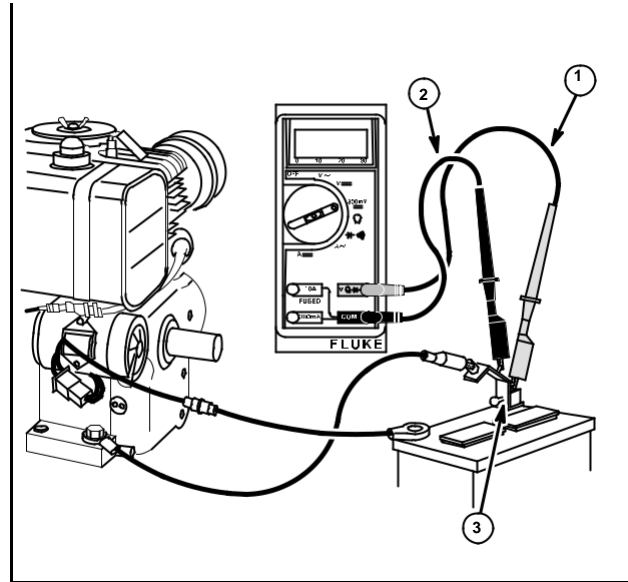

Fig. 34
The DC Shunt **must** be installed on the – (**negative**) terminal of the battery, Fig. 34. All connections must be clean and secure.
2. Insert RED test lead (1) into $V\Omega \rightarrow +$ receptacle in meter and connect to RED post terminal on shunt, Fig. 34.
3. Insert BLACK test lead (2) into COM receptacle in meter and connect to BLACK post terminal on shunt.
5. Attach RED test lead clip to DC output terminal on regulator-rectifier, Fig. 34.